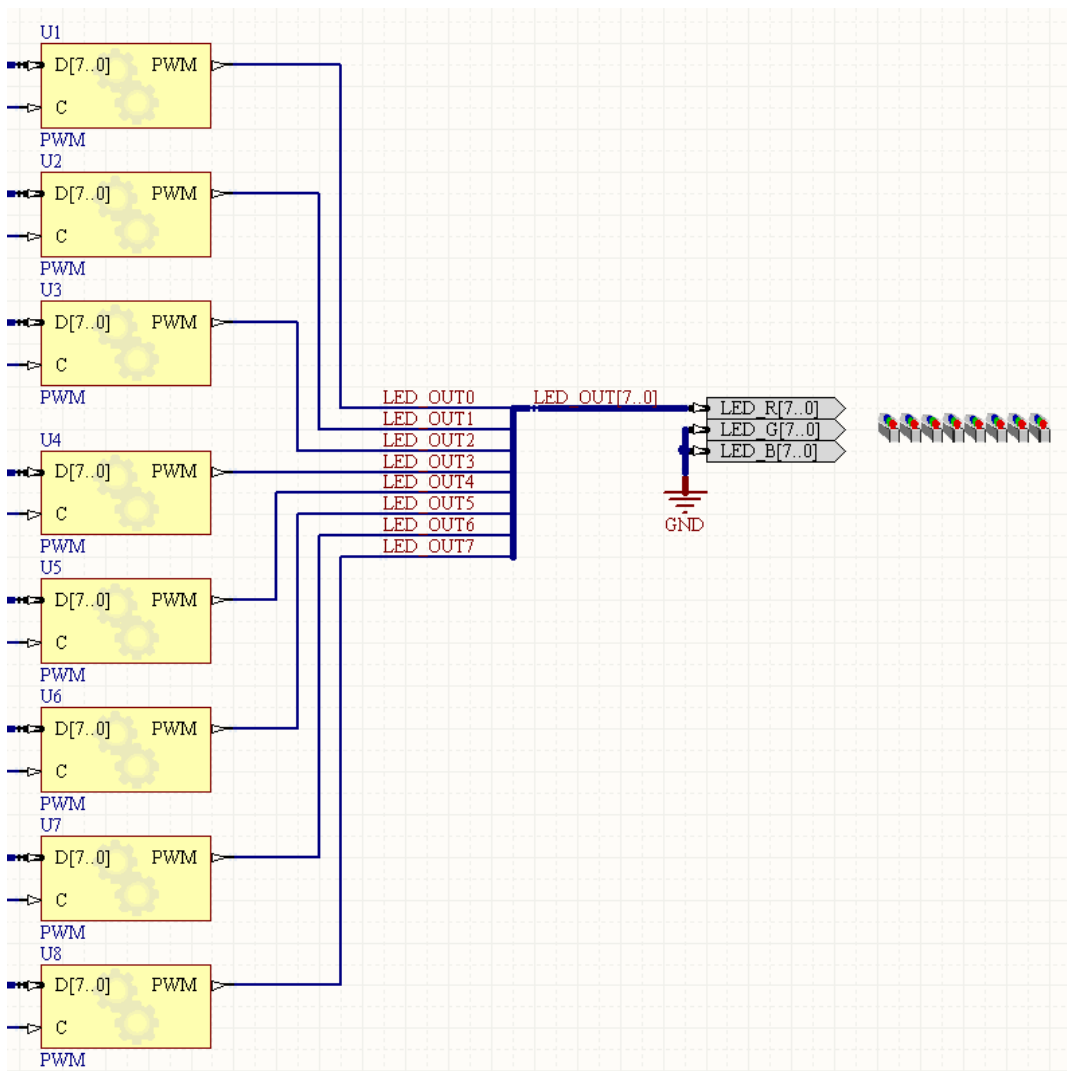

Figure 8. Wire the output of each PWM to the LEDs.
30. The output from each PWM will be wired into a bus, which then connects to the red pin of the LED\_RGB port plugin component, as shown in Figure 8. Note that the wire from each output must include a net label, in the format LED\_OUT0 through to LED\_OUT7, and the bus line must include a net label in the format LED\_OUT[7..0].